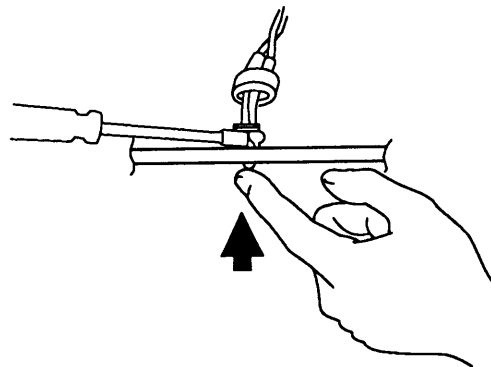

FIGURE 34
4. Press the face of the LED toward the inside of the metal frame while gently prying apart the LED holder with the screwdriver until the LED snaps free of the metal frame (Figure 34).